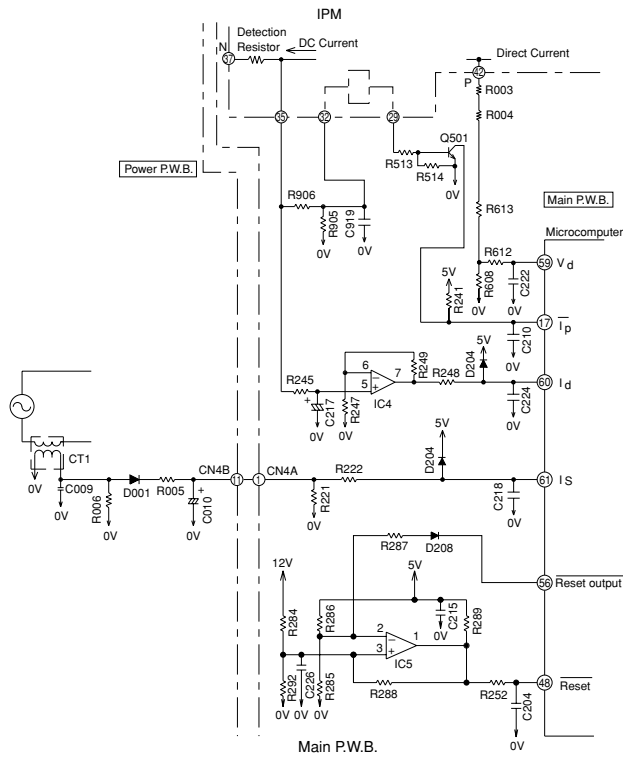

Fig. 6-2
ID OVL is watching and limits the compressor current through the detection resistor, which is built in IPM in order to control the compressor reliability. Since the compressor reliability is related with its speed, the ID OVL value is also linked with the compressor speed. Fig.6-2 shows an ID OVL limitation curve.
(2) ID OVL
Fig. 6-2. The filter consisting of R245 and C217 removes high harmonic frequencies from the voltage generated by the current flowing to Detection resistor; R245 and C217 average the voltage. This voltage is then input to IC4 pin ⑤ and supplied to microcomputer pin ⑥0 . The microcomputer compares this input with the set value, and if the input exceeds the set value, it enters overload control status.